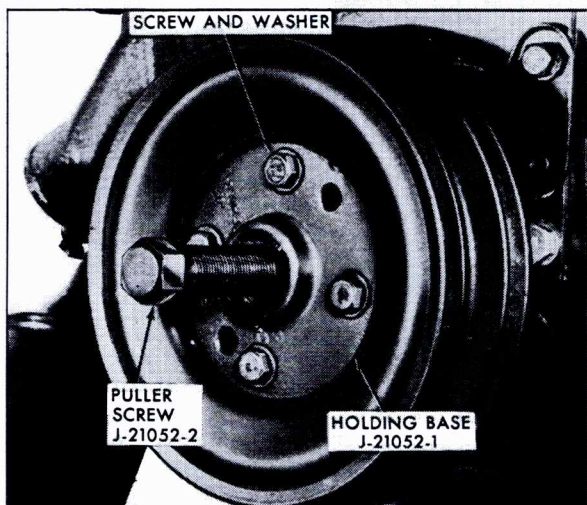

Fig. 6-121 Removing Balancer
10. Install Holding Base, J-21052-1, on front of pulley, lining up holes on base with screw holes in harmonic balancer, and install four holding screws with washers finger tight, Fig. 6-121. Do not use a wrench to tighten screws.
12. Using a wrench, remove harmonic balancer assembly from crankshaft, Fig. 6-121.